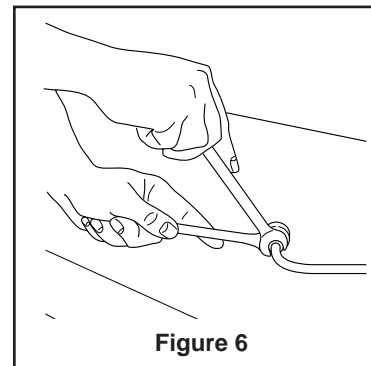

Figure 6
- 1 Locate the compression fitting and ferrule packed in the unit. Slide the compression fitting and ferrule over the 1/4 inch water supply line. Do not use thread sealing compound or tape. Using two wrenches, tighten the compression fitting on the supply line (see Figure 6).